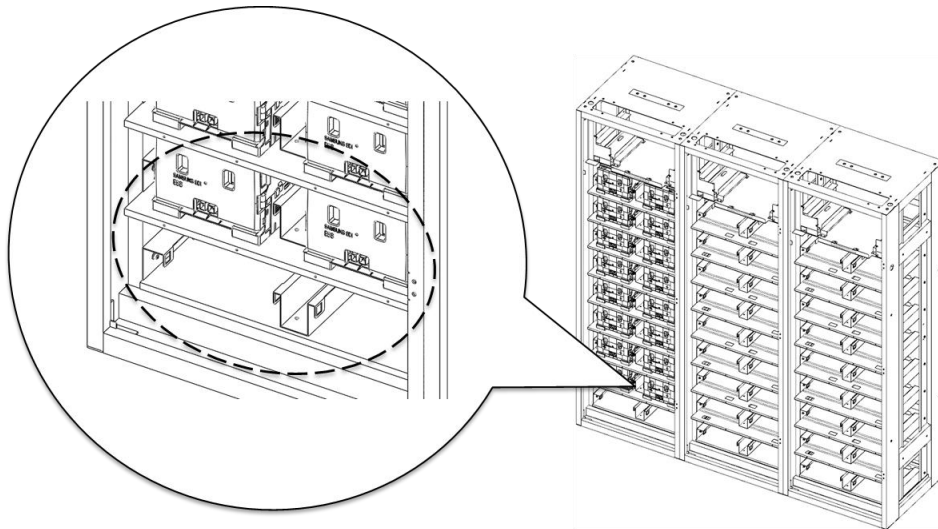

Figure 2-14: Insertion of modules on 1st shelf
- The last slot is empty as seen in Figure 2-14.